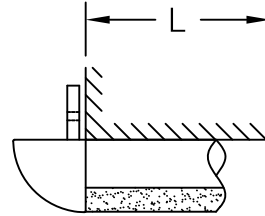

**fig 4**
- Drywall Installation:* Using the accessory as a template pre-drill clearance holes for mounting through to metal backer or stud or pre-drill pilot holes using #29 (.136”) bit for #8 fastener or a #21 bit (.159”) for #10 fastener for attaching accessories directly to aluminum, see **fig 4**.
- Masonry Installation:* Using the accessory as a template pre-drill clearance holes at mounting locations, see **fig 4**.